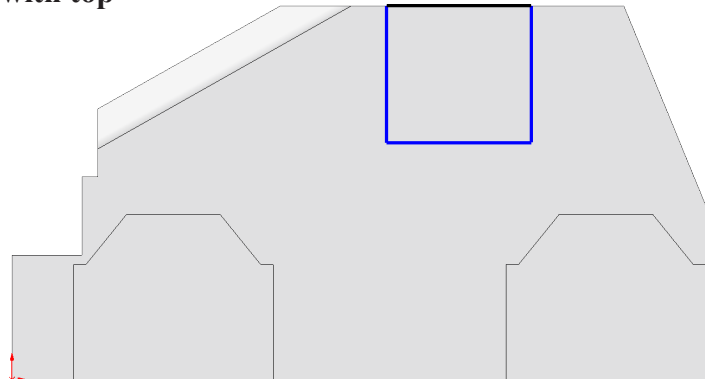

**Fig. 20**
Step 1. Click **Right Plane**  in the Feature Manager and click **Sketch**  on the context toolbar, **Fig. 20**.